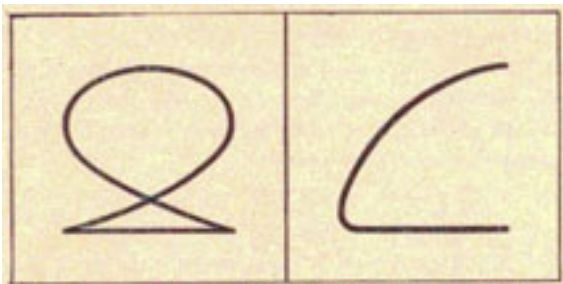

Figure 4 SC/SK-3. Figure of eight determines when calibration pips are 2,000 yards apart.
calibration so that a stationary figure of eight is observed. Lock control. (See fig. 4 SC/SK-3.)
8. Release lock on calibrate minimum (LL) and adjust position of range step with (LL) so that the top of the second marker just begins to drop. (See fig. 4 SC/SK-4.)
9. Crank (TT) so that counter reads 20,000 yards.
13. Turn (CC) to RECEIVE. This method of calibration differs from that given in the instructional manual.